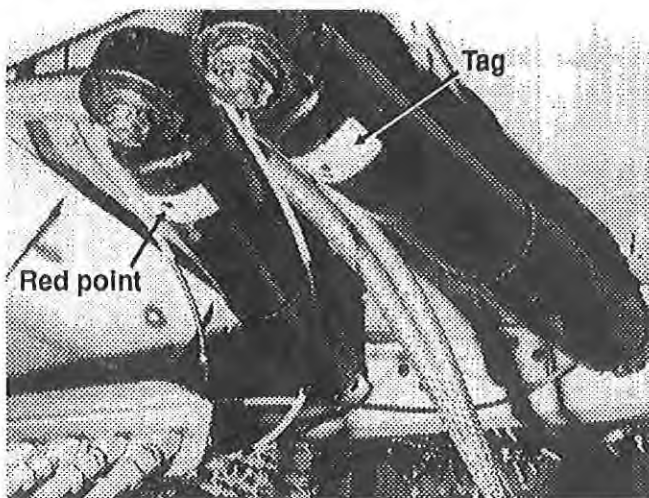

FIG. 2 - Articulation damper installation
5. Install new articulation dampers with tag facing rear section and red point facing the ground. Refer to figure 2 for details. Place washers and nuts, then tighten securely.